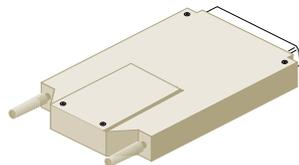

Figure 10-4 SCSI Terminator Plug
- **Terminator plug.** Each I/O module has two 68-pin VHDCI connectors. A host bus adapter is connected to one of the VHDCI connectors and a terminator plug is placed in the remaining connector. Figure 10-4 shows the terminator plug.